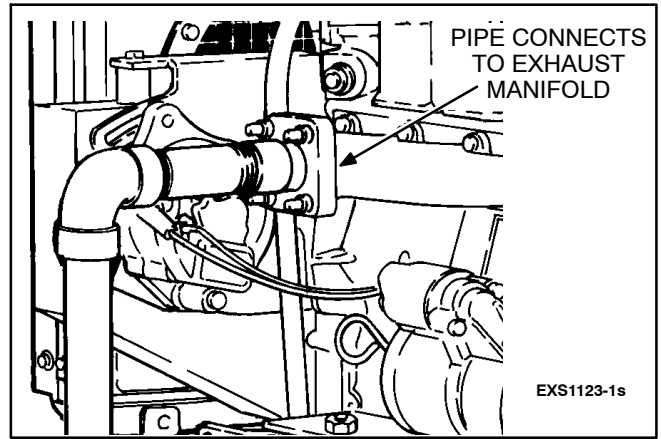

FIGURE 3-13. EXHAUST PIPE CONNECTION
1. Connect the exhaust pipe (1.5-inch I.D., installer-supplied) to the generator set as shown in Figure 3-13.